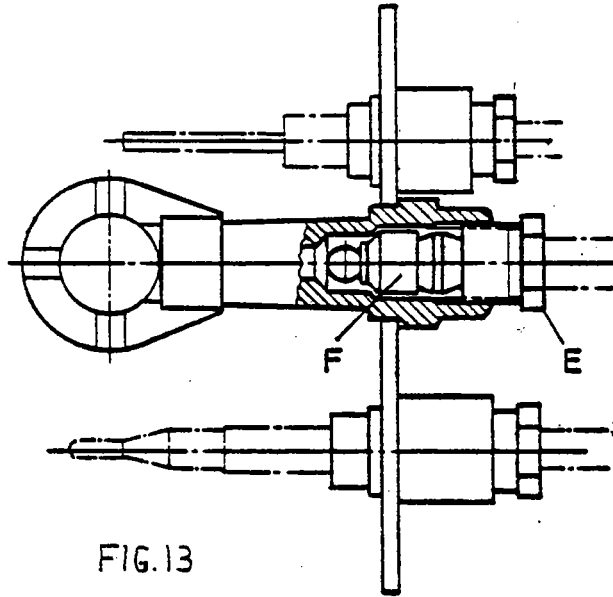

FIG. 13
4. Release the ignition gas coupling E and replace the ignition gas nozzle F (fig. 13).